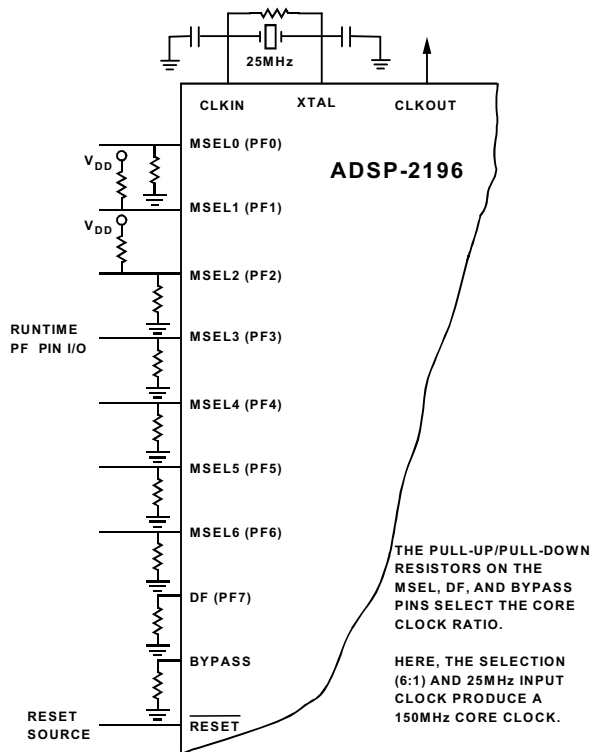

Figure 6. External Crystal Connections
The ADSP-2196 can be clocked by a crystal oscillator or a buffered, shaped clock derived from an external clock oscillator. If a crystal oscillator is used, the crystal should be connected across the CLKIN and XTAL pins, with two capacitors connected as shown in Figure 6. Capacitor values are dependent on crystal type and should be specified by the crystal manufacturer. A parallel-resonant, fundamental frequency, microprocessor-grade crystal should be used for this configuration.
The DSP provides a user-programmable 1 × to 32 × multiplication of the input clock, including some fractional values, to support 128 external to internal (DSP core) clock ratios. The MSEL6–0, BYPASS, and DF pins decide the PLL multiplication factor at reset. At runtime, the multiplication factor can be controlled in software. To support input clocks greater than 100 MHz, the PLL uses an additional input: the Divide Frequency (DF) pin. If the input clock is greater than 100 MHz, DF must be high. If the input clock is less than 100 MHz, DF must be low. The combination of pullup and pull-down resistors in Figure 6 set up a core clock ratio of 6:1, which produces a 150 MHz core clock from the 25 MHz input. For other clock multiplier settings, see the ADSP-219x/2191 DSP Hardware Reference.